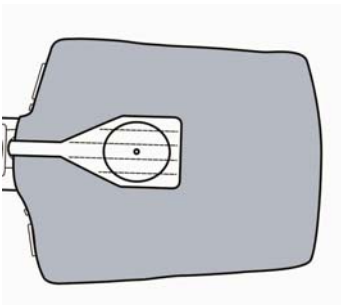

Figure 8
8. The face shield lung bag is then placed on top of the compression plate (the hard plastic piece found on top of the torso foam core) with the oval printed on the face shield lung bag matching the compression plate (Figure 8).